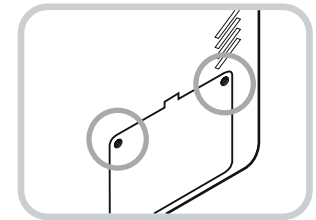

Fig. 5
4. Remove two screws from the Filter Compartment Door using a Phillips screwdriver (not included). (Fig. 5).